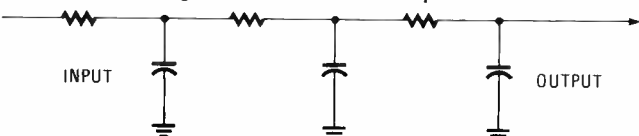

Fig. 14—A multi-section RC low-pass filter consists of several basic RC low-pass filters connected in cascade.
36. (high attenuation, roll off too gradual) One way to increase the rate of roll above the cut-off is to cascade several RC circuits, as shown in Fig. 14. For each additional added section the rate of attenuation increases by 6dB per octave. The circuit in Fig. 14 rolls off at 18dB per octave. However,